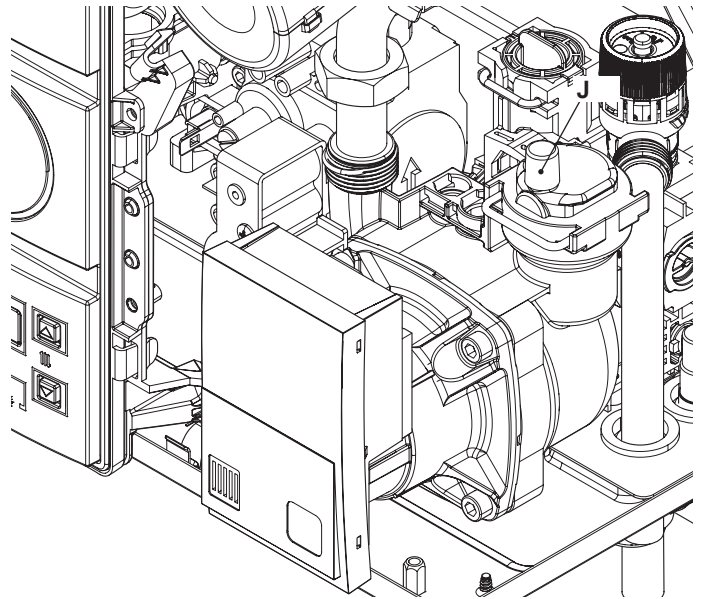

Figure 2.12
- 4 To make draining easier, lift the plug "J" of the automatic relief valve in Figure 2.12.